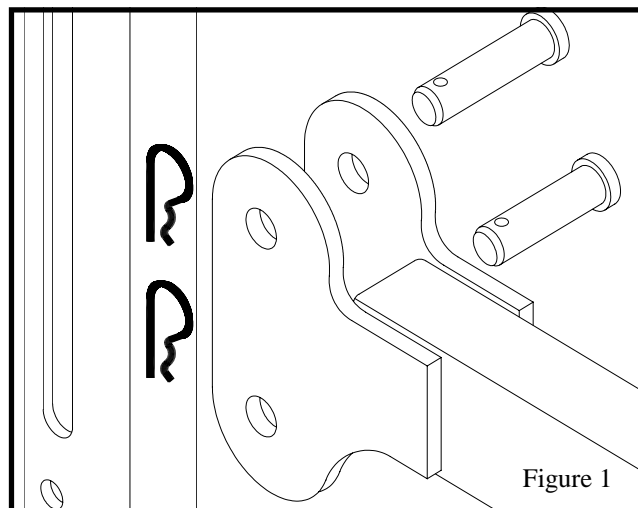

Figure 2
1. Roll the scoring table to the desired location, lift the table top all the way up and swing out the table legs on both sides. Lower the adjustable legs to rest on the floor. Lifting the table brace slightly will allow the adjustable leg to become fully engaged and stabilize the scoring table. Lower the table top on the table braces making sure that the table braces are secured into the locks on the lower surface of the table top. (See **Figure 2**)